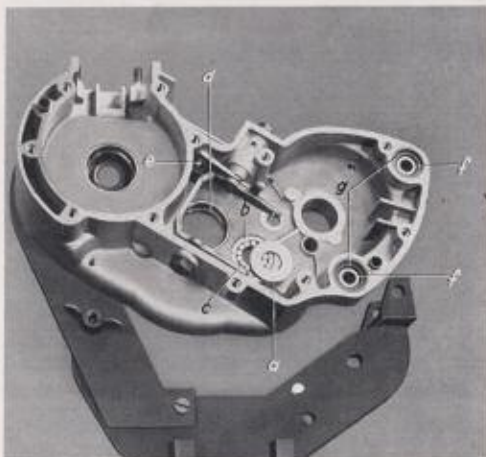

Fig. 36
Insert washer 244 390 (a), and press in the outer race (b) 232 120. Insert 13 rollers (c), 4 x 6 mm, in hot bearing grease, and cover with washer 244 390 (a). (Fig. 36)
Insert groove bearing outer race (d) - E 15 - to the ball bearing bushing 286 791. (Fig. 36)
- 4.28 Insert two wedge plates (g) for the rubber bearings (f). (Fig. 36)